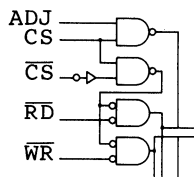

Fig. 6-2
- (1) The input terminals of the RP5C01 should not be allowed to float, but should be pulled up or down to Vcc or GND at all times, regardless of the state of CS or \overline{CS} .
- (2) When CS = low, the ADJUST signal is not accepted.
Fig. 6-2 shows above (1) and (2).